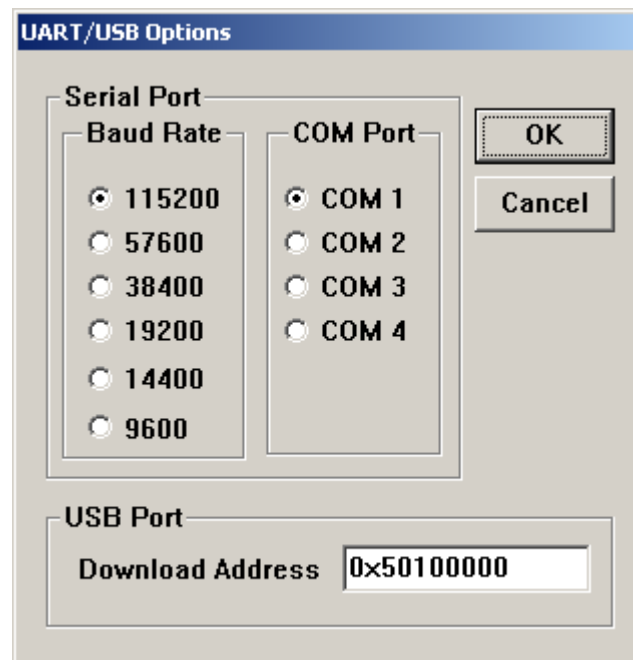

Figure 5-2 UART/USB Options
5. On the **Configuration** menu, click **Options** to set the UART/USB options. The following window appears on your screen. Select Baud Rate and COM Port as shown in figure 5-2, enter the download address as **0x50100000** and then click **OK** button.